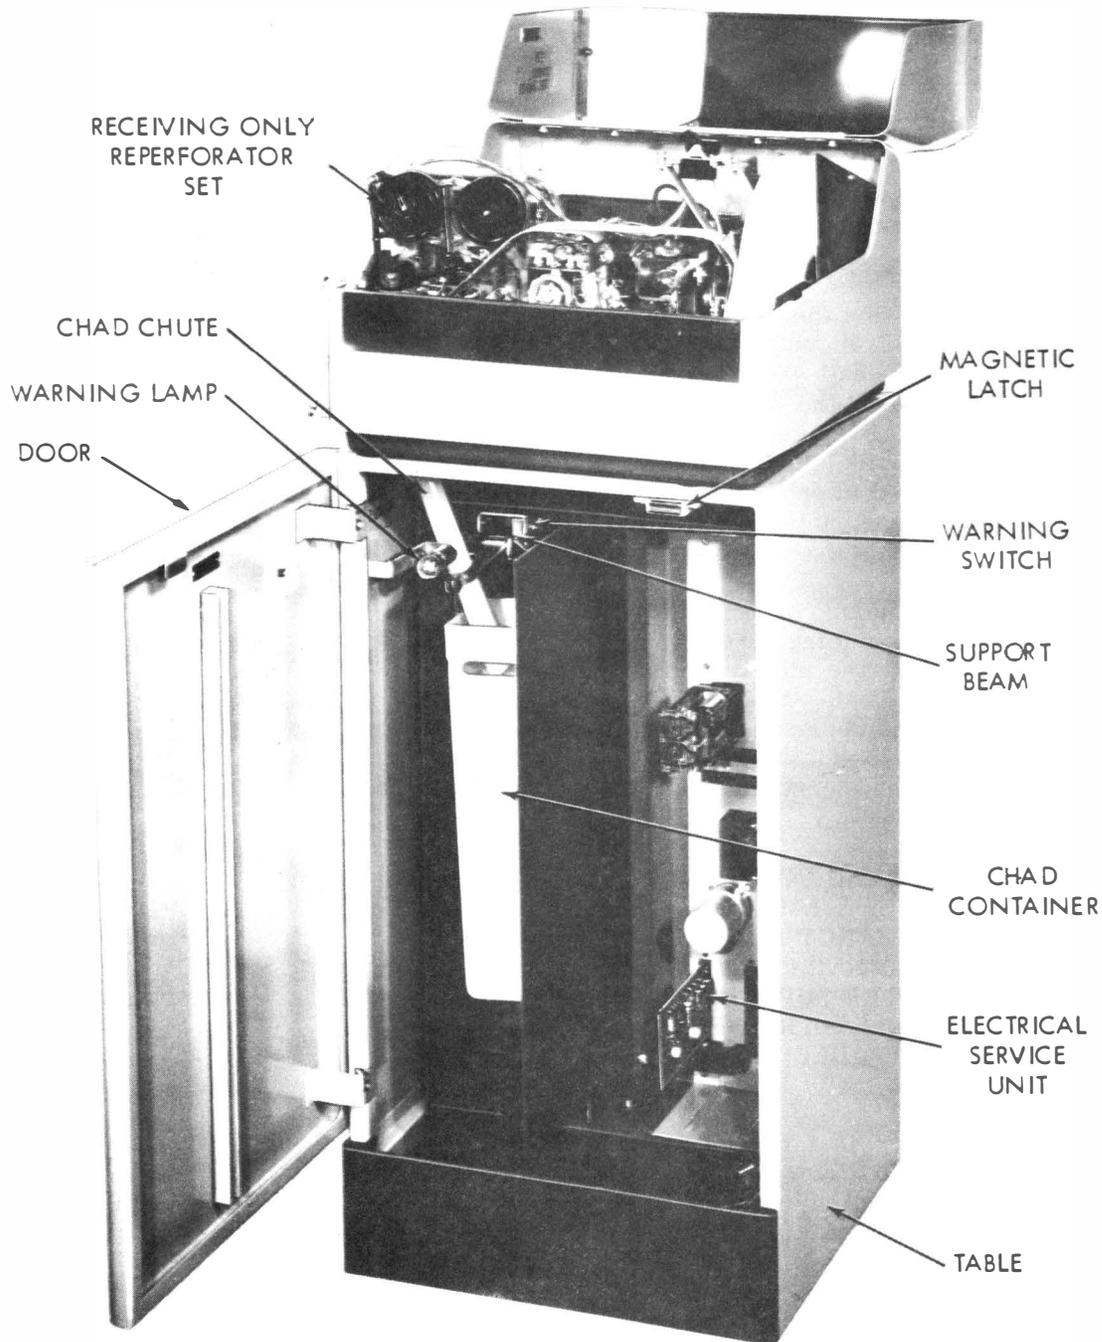

Figure 2 - 35 Reperforator Table with Receiving Only Set and Electrical Service Unit
2. PRINCIPLES OF OPERATION (Fig. 2)